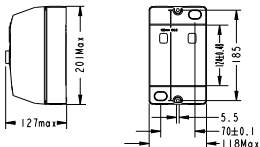

Figure 1 Overall and Mounting Dimensions of the Controller
3.1 Overall and mounting dimensions: see figure 1, unit:mm